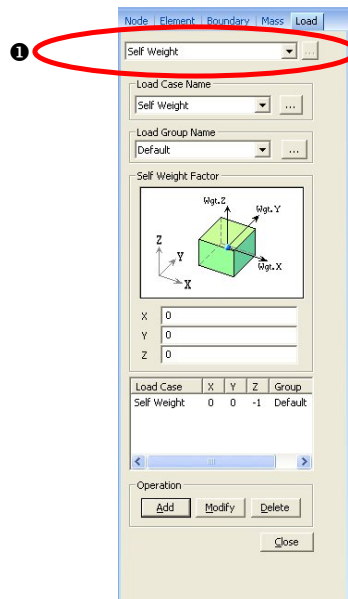

Figure 2.18 Data Entry of Self Weight
1. Select **Self Weight** in the functions selection field (Fig.2.18–❶).